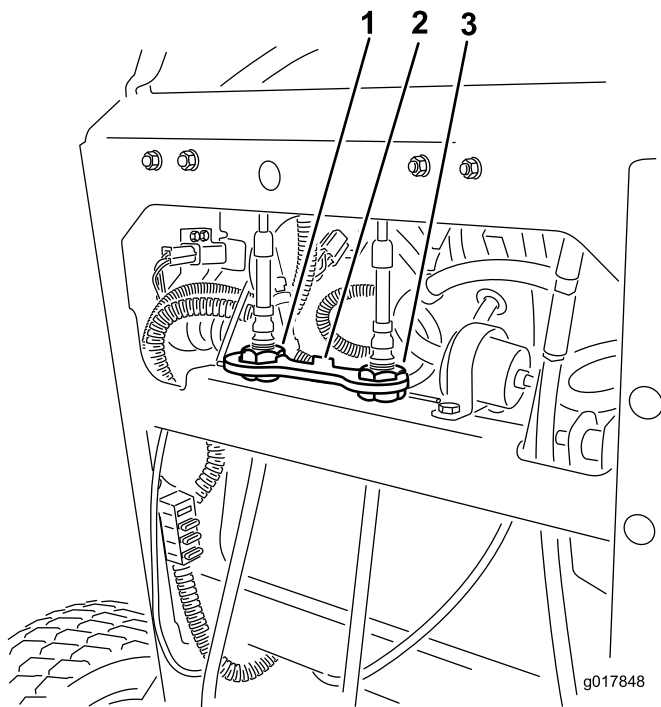

Figure 75
2. Lift and remove the cable lock securing the cable adjusting nuts (Figure 75).
6. Install the cable lock onto the cable adjusting nuts to secure the adjustment (Figure 75).